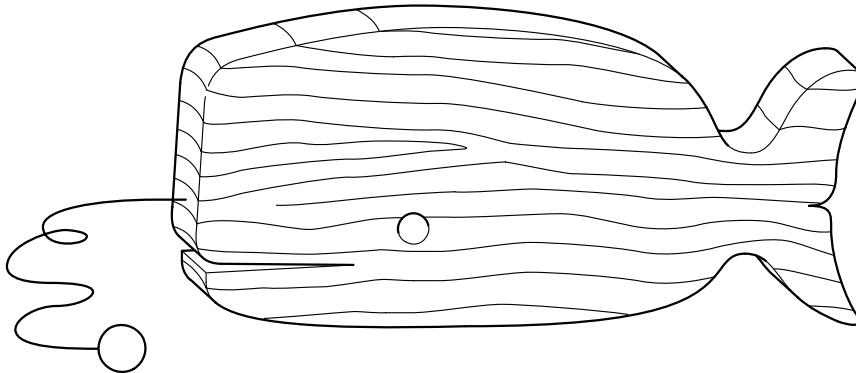

Fig. 3
- 9 Fig. 3 shows a softwood toy. State **three** possible protective finishes that could be applied to it. [3]